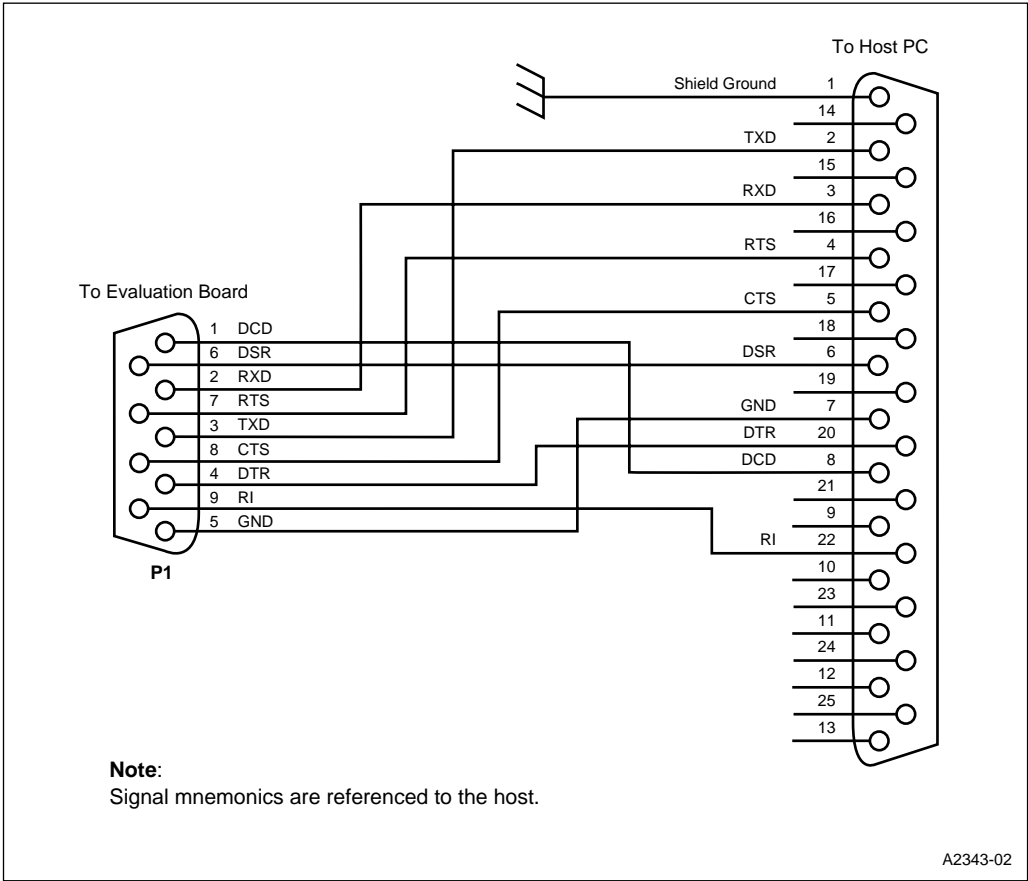

Figure A-2. Serial Interface
- Figure A-2 on page A-6 which shows how to assemble a 25-pin to 9-pin serial port interface adapter cable to attach to the evaluation board.
If your computer has a 25-pin serial port connector, we recommend you buy a standard RS-232 25-pin to 9-pin conversion adapter or cable. Figure A-2 on page A-6 shows you how to assemble a 25-pin to 9-pin serial port interface adapter cable for the correct connection to the evaluation board.